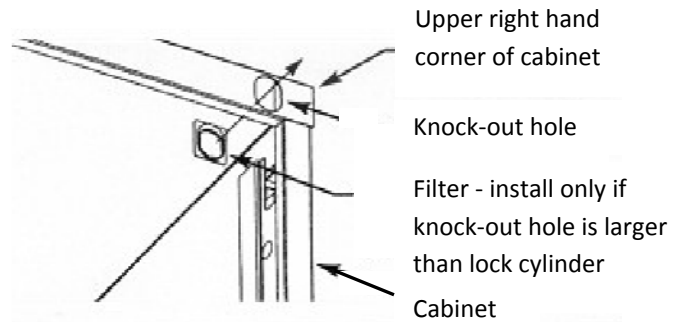

Figure 1
2. Locate knockout at top right of cabinet. Place screwdriver at center of knockout panel and tap with hammer (see figure 1).